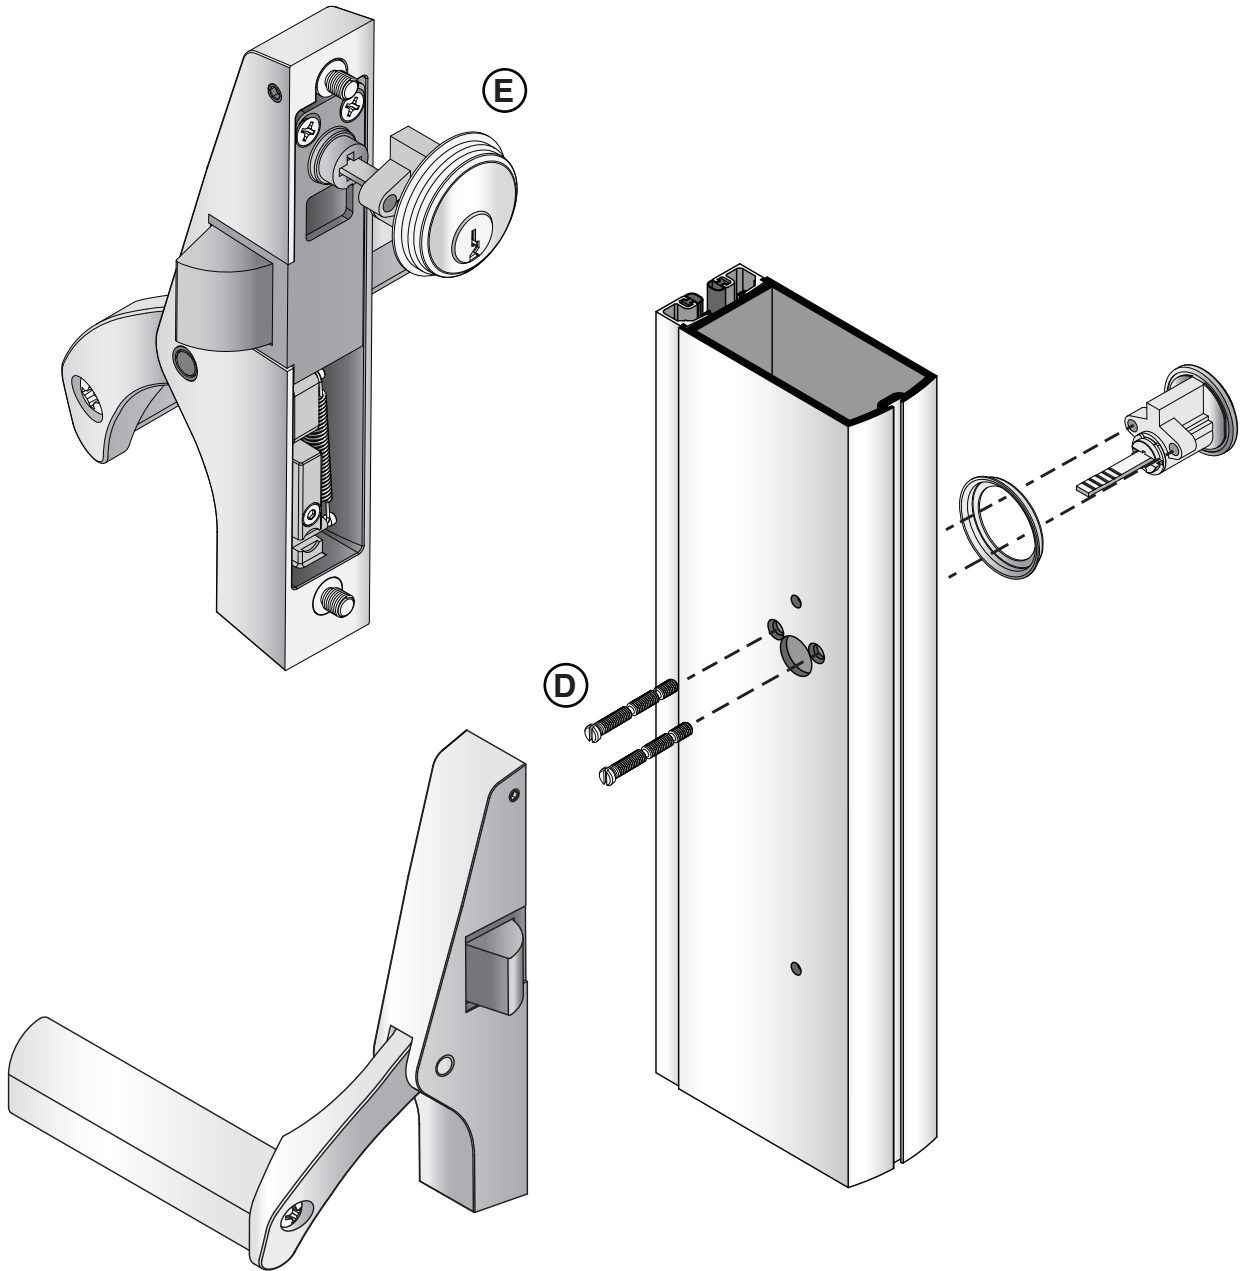

FIG. 5
1. Insert (E) Cylinder Lock DL911 * into exterior active stile.
2. Secure with (D) two screws provided. (Fig. 5)